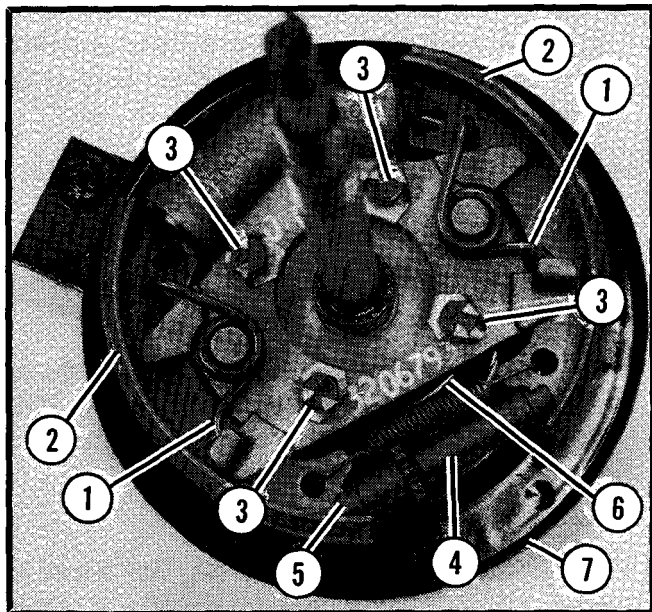

Figure 3.
2. Remove the return springs from each shoe. Remove the adjusting screw, pivot, and socket from the brake shoes. Remove the brake shoes, and shoe hold down springs. See Figure 3.
4. If the spider assembly is removed from the brake arm assembly, the 5/16 – 18 x 1 1/4 screws mounting the spider assembly to the brake arm assembly must be tightened to 24±2 lbs. ft. (32±3 Nm) torque. After tightening, the screws must be turned further, if needed, to achieve approximate head orientation shown Figure 3. After orientation of screws is achieved the lock plate tabs must be bent over top of all four screws.
2. Install adjusting screw, pivot and socket. Install brake return springs note color. See Figure 3.